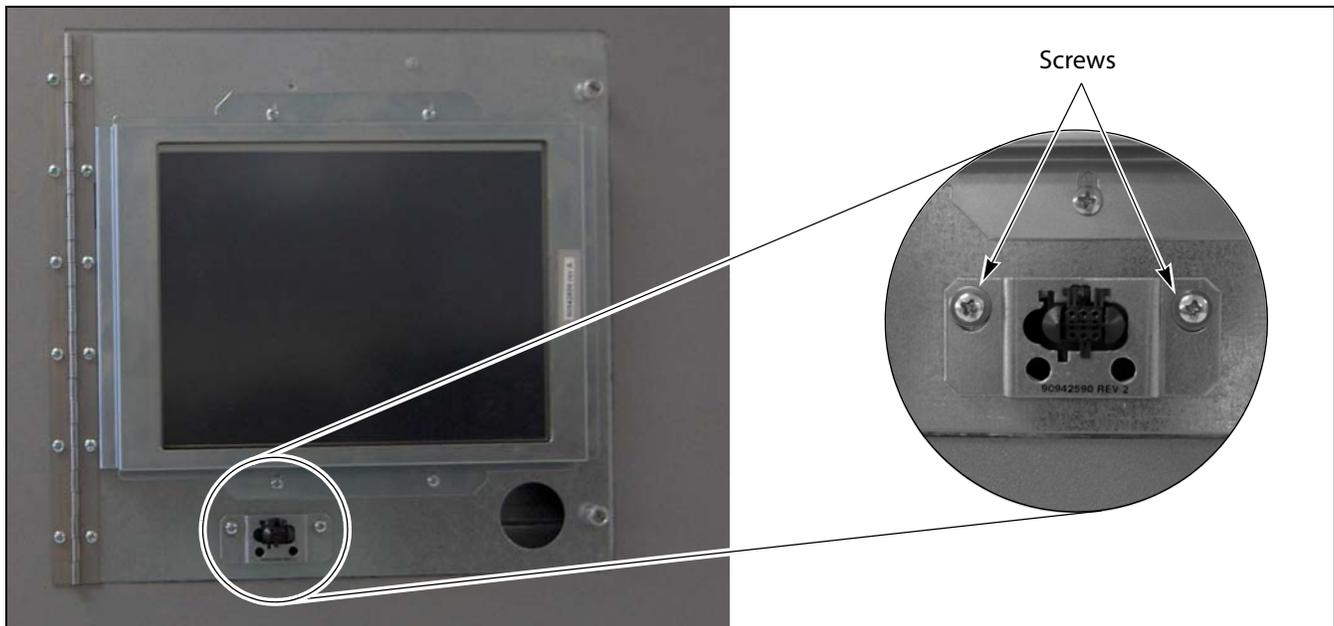

Figure 38 Remove the screws securing the power button mounting bracket to the LCD assembly.
11. Using a #2 Phillips screwdriver, install the two screws, each with a washer, to secure the mounting bracket to the LCD panel (see Figure 38 on page 41).